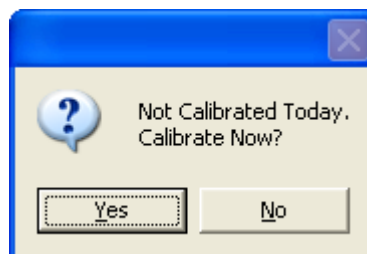
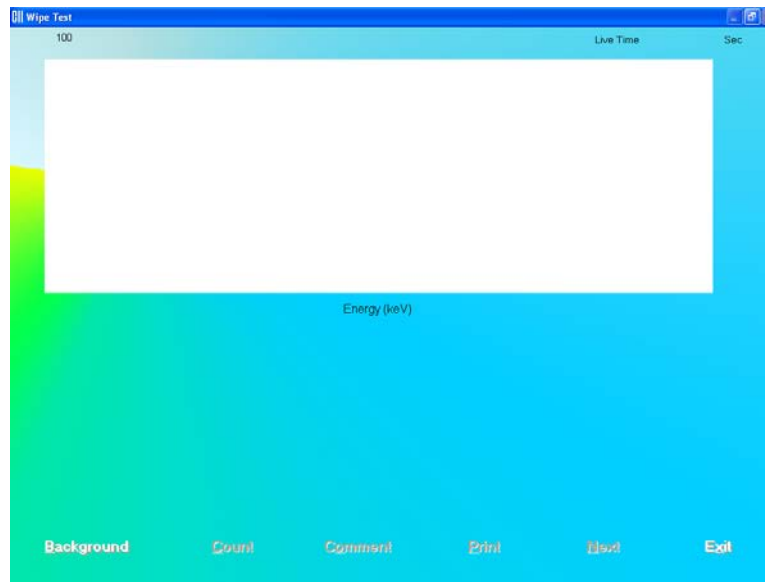

Figure 8-14
Figure 8-15 Wipe Test Measurement Screen
4. To begin the measurements, click the **Count** button or press *Alt+C*. Figure 8-15 Wipe Test Measurement Screen will appear.
Note: If calibration has not been performed for the current day, you will be prompted with the screen as shown in Figure 8-14. After the calibration is complete, the program will return to Figure 8-15 Wipe Test Measurement Screen.